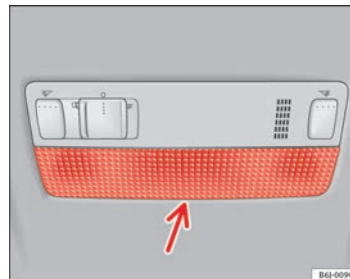

Fig. 156 Front reading light
- Insert a fine screwdriver between the casing and the glass ⇒ fig. 156.